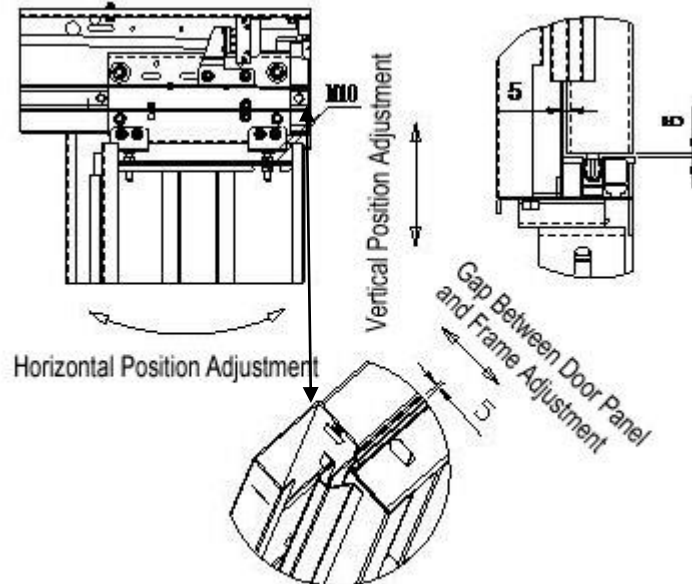

Figure 5-6-2 Vertical position of the landing door panel adjustment
- b) Vertical and gap adjustment: Loosen four M10 flange hex nuts on the hanger door bolt ASSY to adjust the door panel position. Refer to Figure 5-6-2.